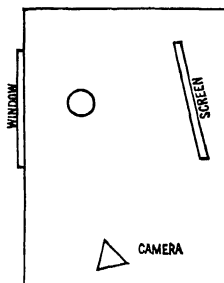

FIG. 27. DIAGRAM FOR
*Indoor Informal Portraits by Daylight.*—These pictures need a rather long exposure, because the amount of daylight that comes through a window cannot begin to equal the outdoor light in intensity. The simplest type is the picture of a person standing or seated beside a window. Daylight coming through the window lights the subject from one side. A screen may be used on the opposite side to reflect some of the daylight back onto the subject so that that side will not be too dark (see Illus. 3 and the diagram, Fig. 27). Do not include too much of the window in the picture or the long exposure necessary to “capture” the subject will make